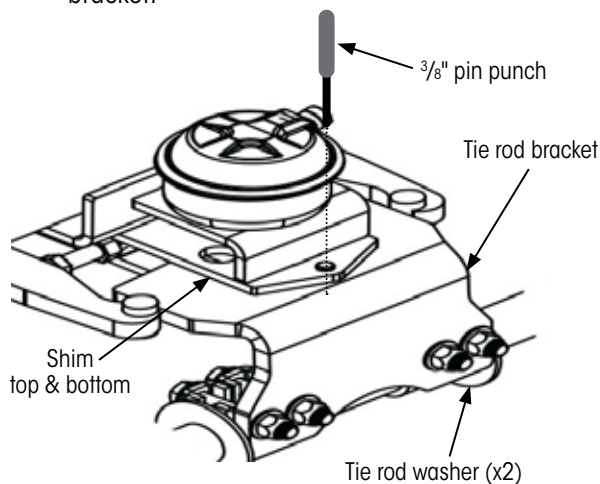

Figure 17: Positioning tie rod bracket
1. **Install** tie rod bracket, as shown in Figure 17, using hardware removed in Step 2 of REMOVE TIE ROD BRACKET on page 10 . **DO NOT** tighten at this time.
2. **Ensure** the tie rod bracket is correctly positioned in the lock-straight assembly shown in Figure 17.
3. **Manually lock** the lock-straight assembly with a 3/8 inch pin punch (or equivalent) as shown in Figure 17.
4. **Temporarily shim** above and below tie rod bracket (Figure 17) to evenly space (center) the tie rod bracket vertically in lock-straight assembly.
6. **If tie rod washers** (Figure 17) **are loose**, refer to installation drawing D-36237² for instructions on tack welding the washers in place.
1. The tie rod bracket should be held in position by the lock-straight air chamber pin. If the centering pin is not in place, insert a 3/8 inch pin punch (or equivalent) as shown in Figure 17 on page 12.